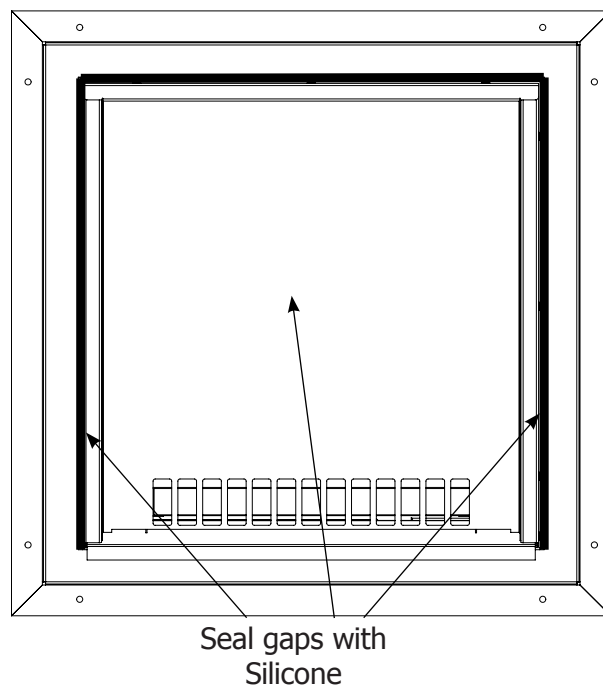

Figure 7: Silicone locations
10. Seal the perimeter of the termination between the main body and the finishing face with silicone or caulking. Refer to Figure 7 for exact locations.